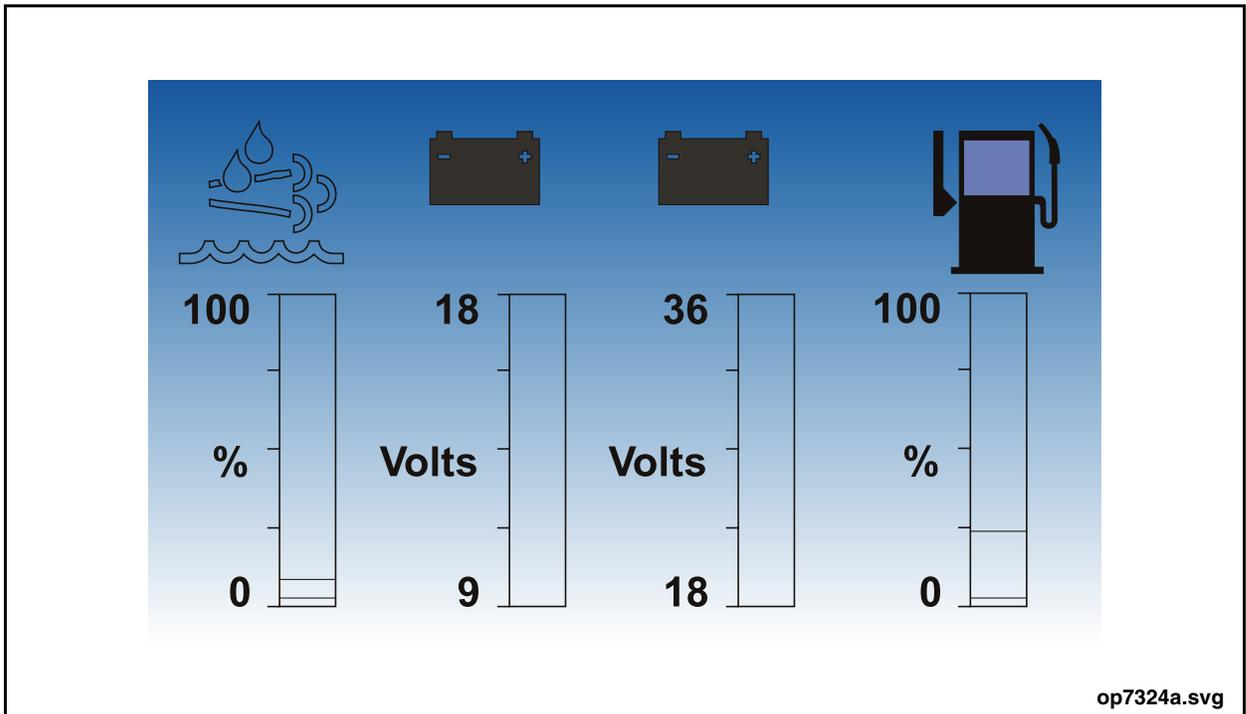

Figure 23: Function Readout Screen
- Diesel Exhaust Fluid Level - displayed on a bar graph as percentage of fluid remaining in the tank. See “Figure 23: Function Readout Screen” on page 65.